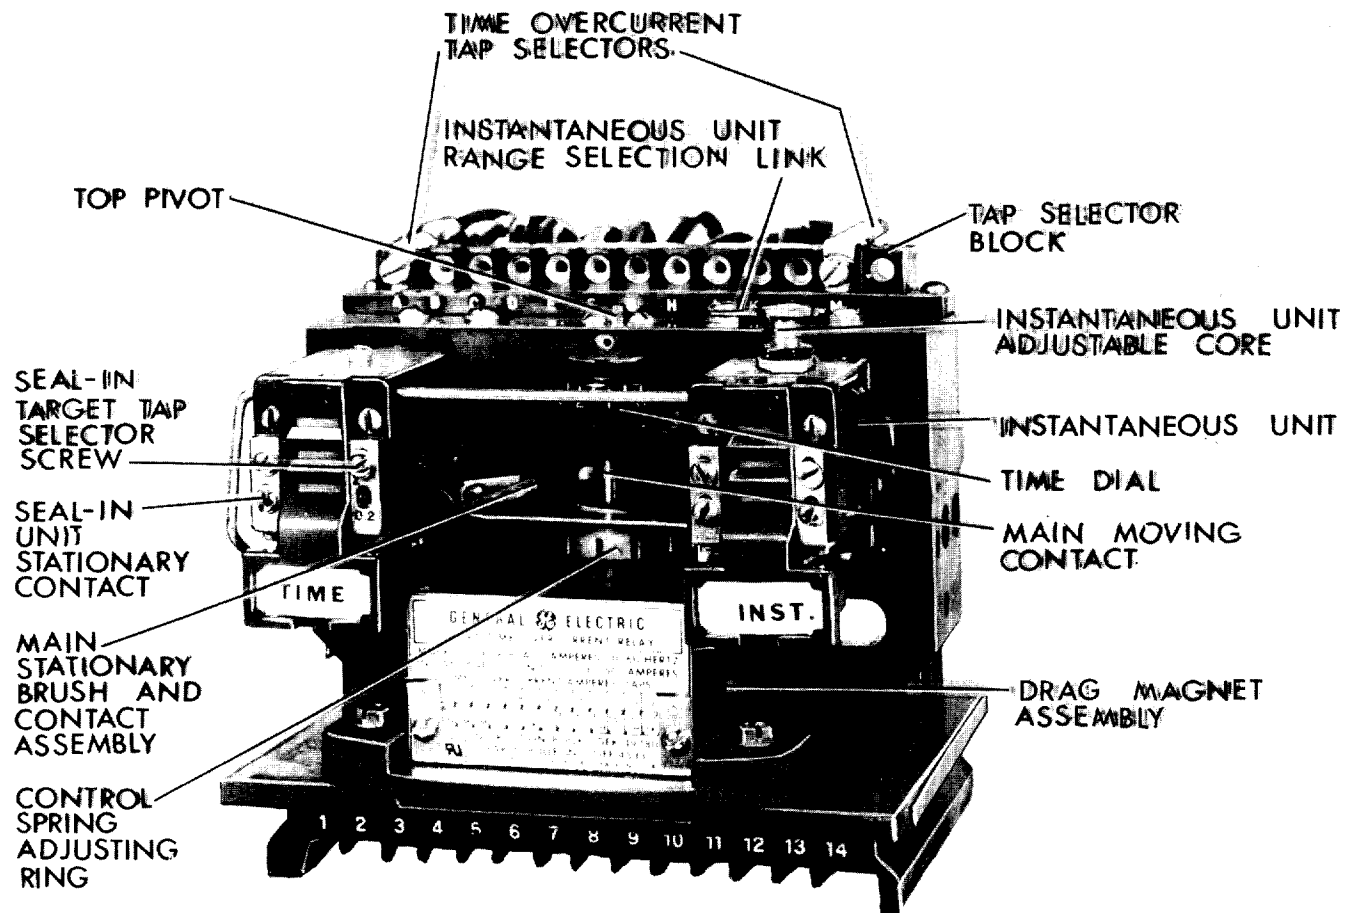

Figure 1 (8043006) IFC95F Relay, Removed from Case, Front View
1. Select the desired range by setting the link in the proper position (see Figures 1 and 3). Whenever possible, be sure to select the higher range since it has a higher continuous rating.
The drag magnet assembly should be approximately in the middle of its travel. The drag magnet assembly is adjusted by loosening the two screws securing it to the support structure. See Figure 1. Moving the drag magnet towards the disk and shaft decreases the operating time, and moving the drag magnet away